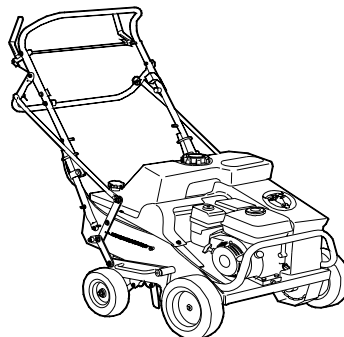

Fig 3
1. Remove the lock nuts (item 50) that secure the handle, one on each side, to the lower handle mounting studs.
2. Loosen the handle mounting bolts (item 51), one on each side, (See Fig. 3) and push the handle out and away from the lower handle mounting studs.
4. Completely tighten the handle mounting bolts (item 51), and replace the lock nuts (item 50) to secure the handle in place.
This unit is equipped with a folding upper handle for easier storage. TO FOLD THE HANDLE (See Fig. 3):